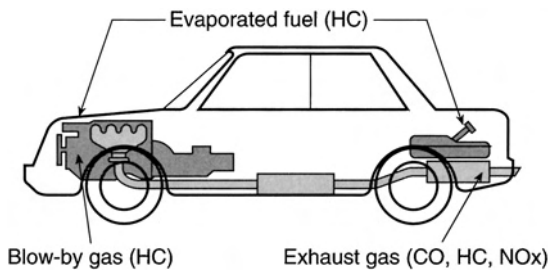

Fig. 4.2 Various bad emissions from engine and fuel system
**solids** (particulates like soot and tiny metallic particles) are produced (Fig. 4.2).